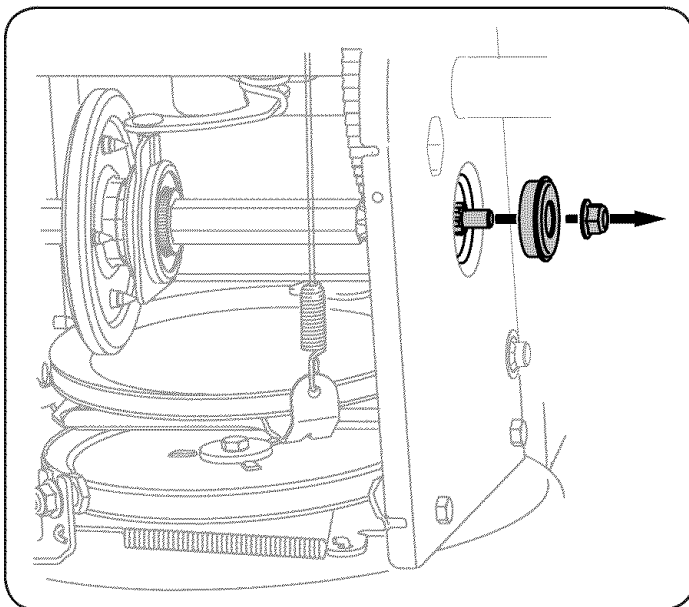

Figure 29
6. Carefully remove the hex nut and washer which secures the hex shaft to the snow thrower frame and lightly tap the shaft's end to dislodge the ball bearing from the right side of the frame. See Figure 29.